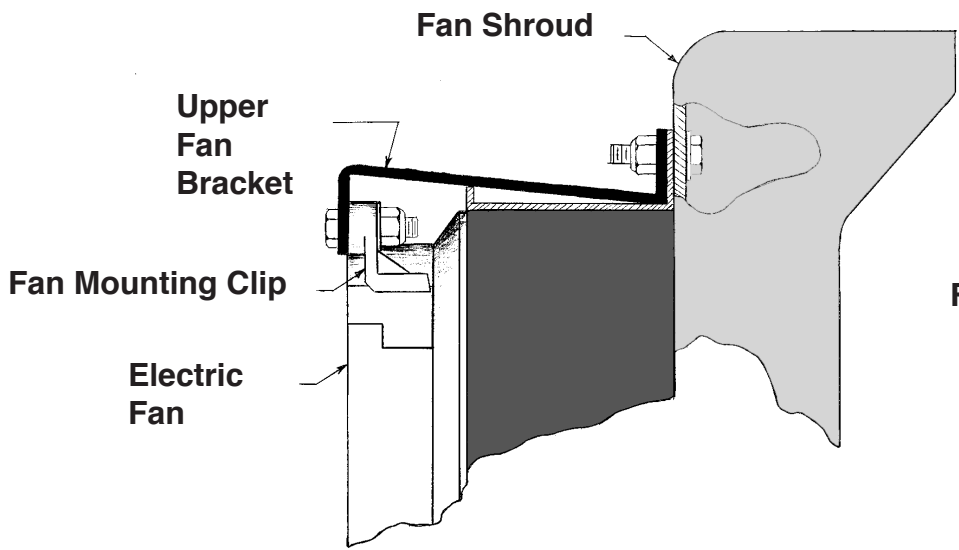

Fig. 1 Upper Bracket Installation
1. Attach the fan mounting clips to the new fan as shown in figures 1 and 2.
7. Slide the new fan assembly towards the passenger side of the truck until sufficient space is available inside the fan shroud on the drivers side mount for the head of the bolt as shown in figure 1.
10. Install the four 1/4" mounting bolts making sure a washer is installed next to the fan shroud as shown in figures 1 & 2.